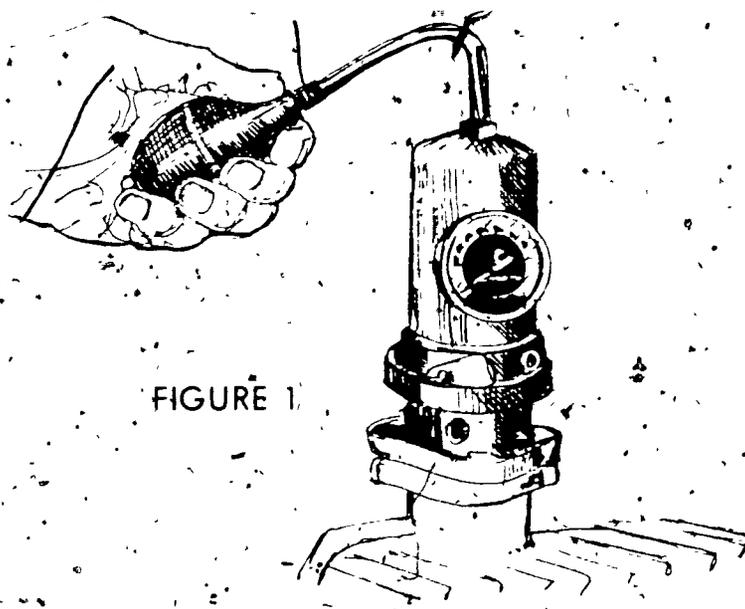

FIGURE 1
- D. Apply pressure (Figure 1)